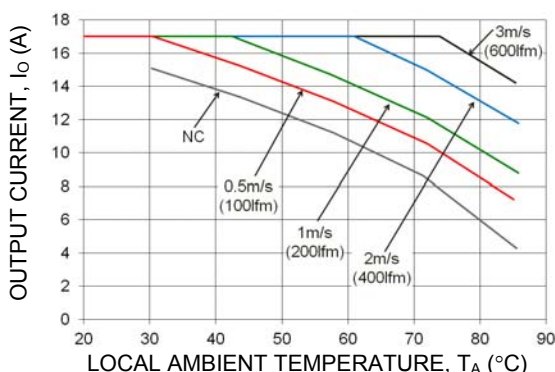

Figure 20. Output Current Derating for the Open Frame EBVW017A0S14R0 in the Transverse Orientation; Airflow Direction from Vin(-) to Vin(+); Vin = 48V.
Increased airflow over the module enhances the heat transfer via convection. The thermal derating of figures 20 through 22 show the maximum output current that can be delivered by each module in the indicated orientation without exceeding the maximum THx temperature versus local ambient temperature (TA) for air flows of, Natural Convection, 1 m/s (200 ft./min), 2 m/s (400 ft./min).